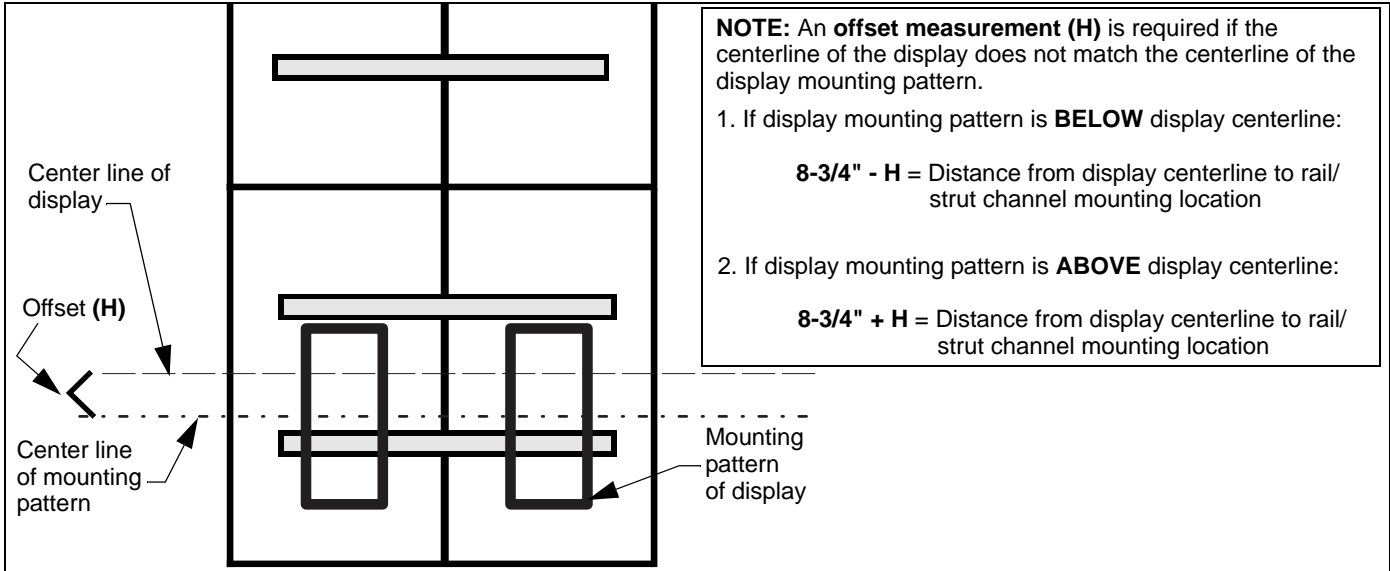

Figure 2
H - Display mounting pattern offset. Only applies to some displays. Calculation instructions (See Figure 2)
**NOTE:** If an offset measurement **(H)** is needed (See Figure 2):